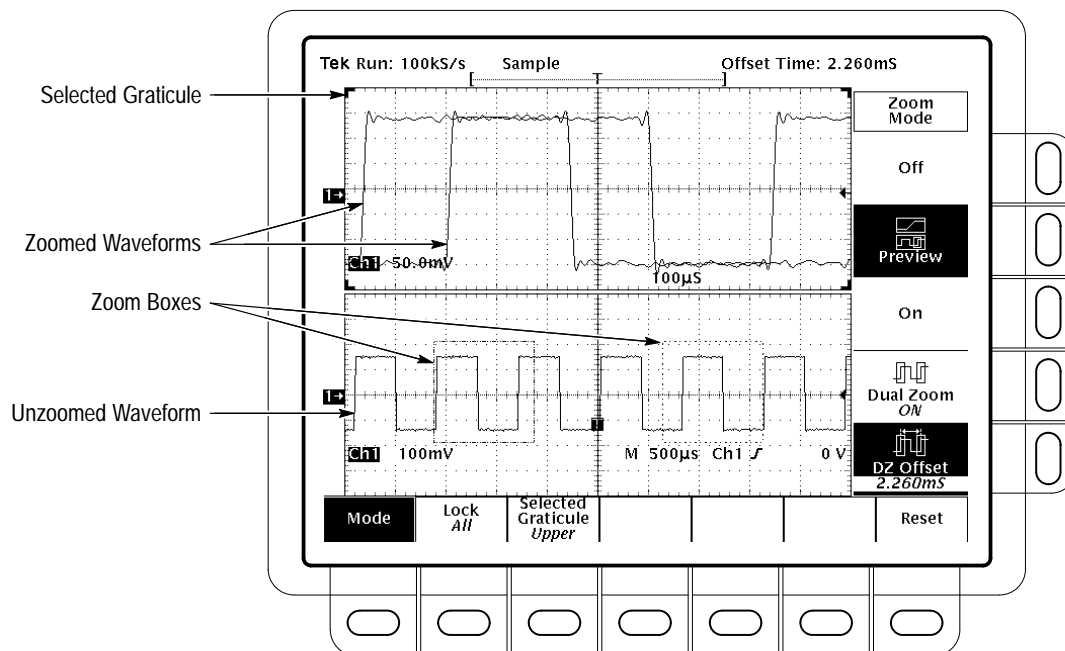

Figure 3–68: Zoom Preview Mode
*None* — only the waveform currently selected can be magnified and positioned horizontally (Figure 3–67).
**To Preview Zoom** Zoom Preview draws a box around the zoomed portion(s) of the unmagnified selected waveform. It also displays both the magnified and unmagnified waveforms in separate half-height graticules (see Figure 3–68). To preview zoom, press **Zoom** → **Mode** (main) → **Preview** (side).
To select which waveforms are controlled by the horizontal and vertical scale and offset controls, indicated by “photo-corners” on the graticule corners containing the waveforms (see Figure 3–68), press **Selected Graticule** (main) → **Upper** or **Lower** (side).